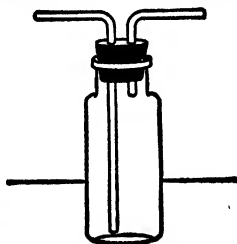

Fig. 25.
**a.** If this experiment is to be performed quantitatively, a gas washing-bottle (Fig. 25) will be required to dry the gas obtained as in 67 d, and should contain enough concentrated sulphuric acid to immerse the longer tube to a depth of half an inch. Attach the longer tube of the bottle by rubber tubing to the generating flask.